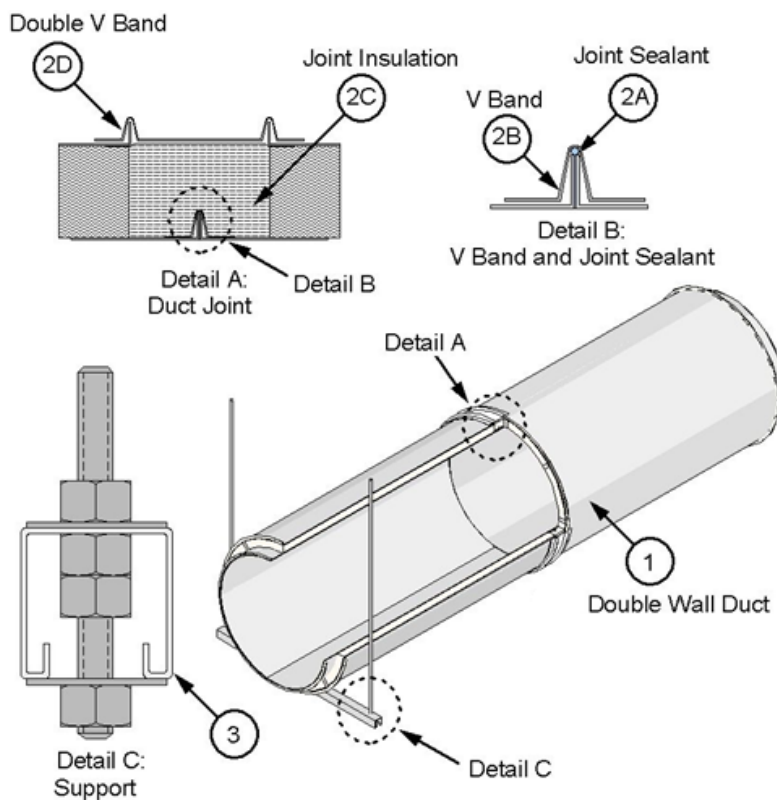

Figure 1. Double Wall Duct and Horizontal Support
B. **V BAND** – Use the supplied V band (see Figure 1). Place the loose V band, filled with joint sealant (Item 2A), over one of the inner duct flanges. Join to the other inner duct flange with the continuous bead of joint sealant (Item 2A) and rotate slightly to ensure complete coverage of joint sealant (Item 2A) on flanges. Ensure that the flanges are located within the V band and that the V band hardware is not at the bottom side of a horizontal duct. Tap the V band while tightening the integral 1/4-20
- D. **DOUBLE V BAND** – Use the supplied double V band (see Figure 1). Place double V band with outer shell flanges seated in the V band; tighten integral 1/4-20 hardware to 40-60 in.lbs.
- A. **HORIZONTAL SUPPORTS** – Support the pre-fabricated grease duct (Item 1) using min. 12 GA, 1-5/8 in. x 1-5/8 in. Unistrut® channel or 2 in. x 2 in. x 1/4 in. steel angle as the supporting cross-member and two, min. 1/2 in. diameter, threaded steel rods connected using Grade 5 hex nuts and 1/2 in. hardened washers (see Figure 1, Detail C). Connect the threaded steel rods to the bottom of the floor assembly using an attachment method designed to carry the weight of the pre-fabricated grease duct (Item 1) under a fire load equivalent to ASTM E 119 time-temperature curve for a 2